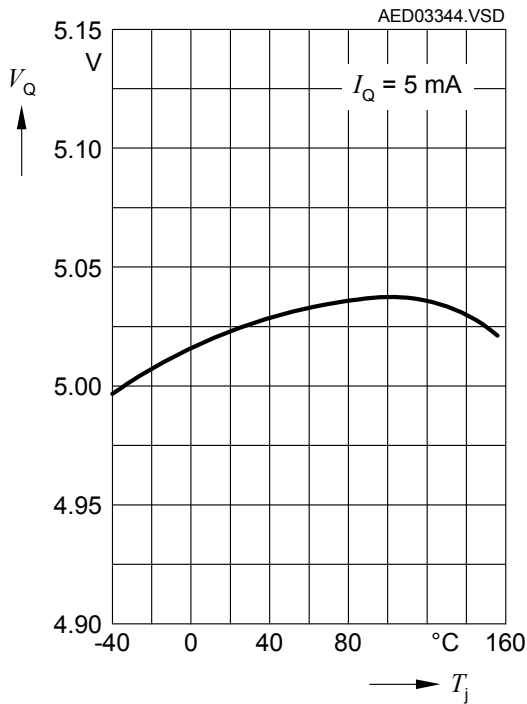

**Figure 3 Measuring circuit**
**Figure 3** shows a typical measuring circuit. For stability of the control loop the TLE4266-2G output requires an output capacitor  $C_Q$  of at least 10  $\mu\text{F}$  with a maximum permissible ESR of 4  $\Omega$ . Tantalum as well as multi layer ceramic capacitors are suitable.
At the input of the regulator an input capacitor is necessary for compensating line influences (100 nF ceramic capacitor recommended). A resistor of approx. 1  $\Omega$  in series with  $C_I$ , can damp any oscillation occurring due the input inductivity and the input capacitor. In the measuring circuit shown in **Figure 3** an additional electrolytic input capacitor of 470  $\mu\text{F}$  is added in order to buffer supply line influences. This capacitor is recommended, if the device is sourced via long supply lines of several meters.